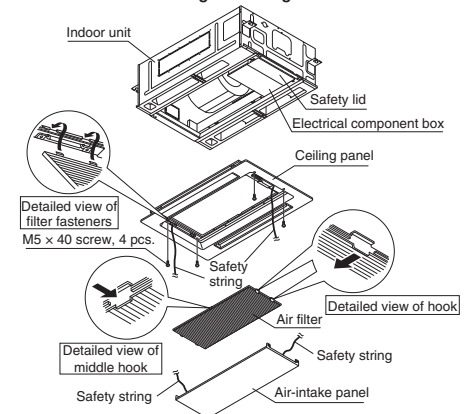

Fig. 7-15
- Press the hook by hand to remove the air filter. (Fig. 7-15)
- (2) Install the ceiling panel onto the indoor unit. (See Fig. 7-15. The connector is on the electrical component box.)